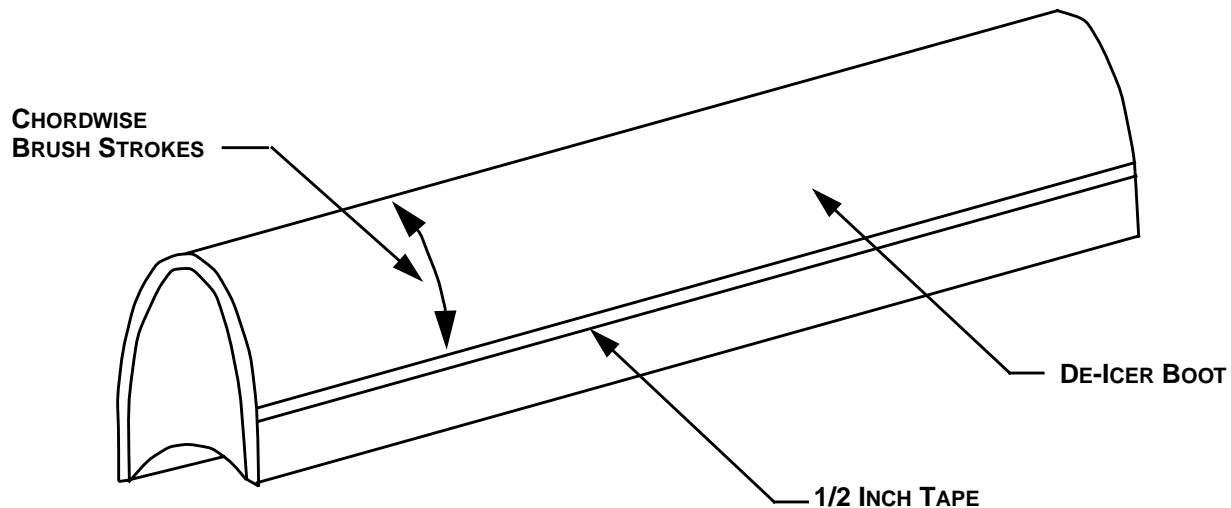

FIGURE 1 - PRIMER APPLICATION
- Step 1. Apply one even coat of the mixed primer to the surface of the de-icer with a paint brush (see paragraph 4.2.1) using short strokes in a chordwise direction (see Figure 1) to achieve a smooth finish and greater durability.
- Step 1. Apply one smooth coat of the mixed coating over the cured primer with a paint brush using short strokes in a chordwise direction (See Figure 1) to achieve a smooth high gloss finish.